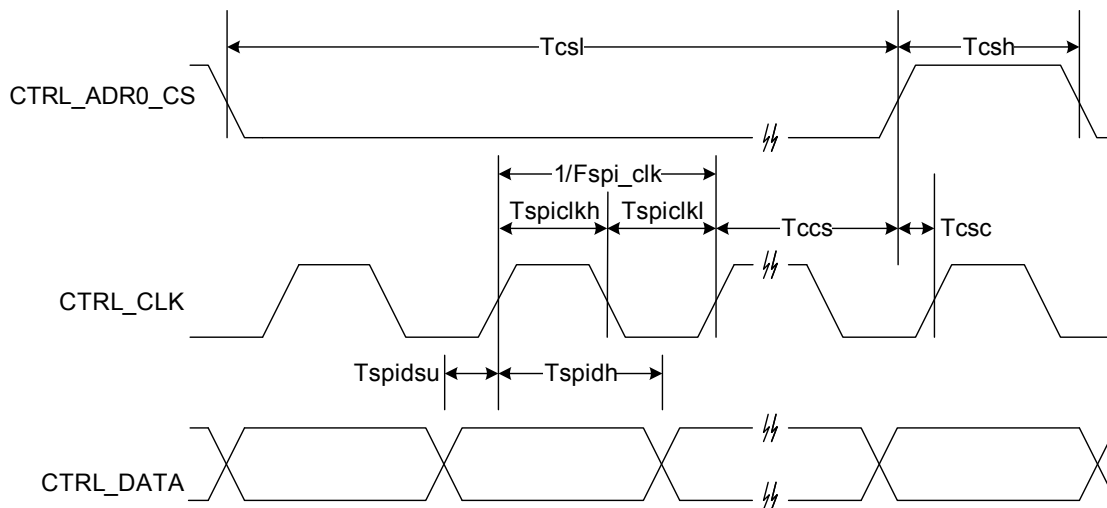

Figure 6. SPI Timing
SPI BUS TIMING (4) See <a href="#">Figure 6</a> .